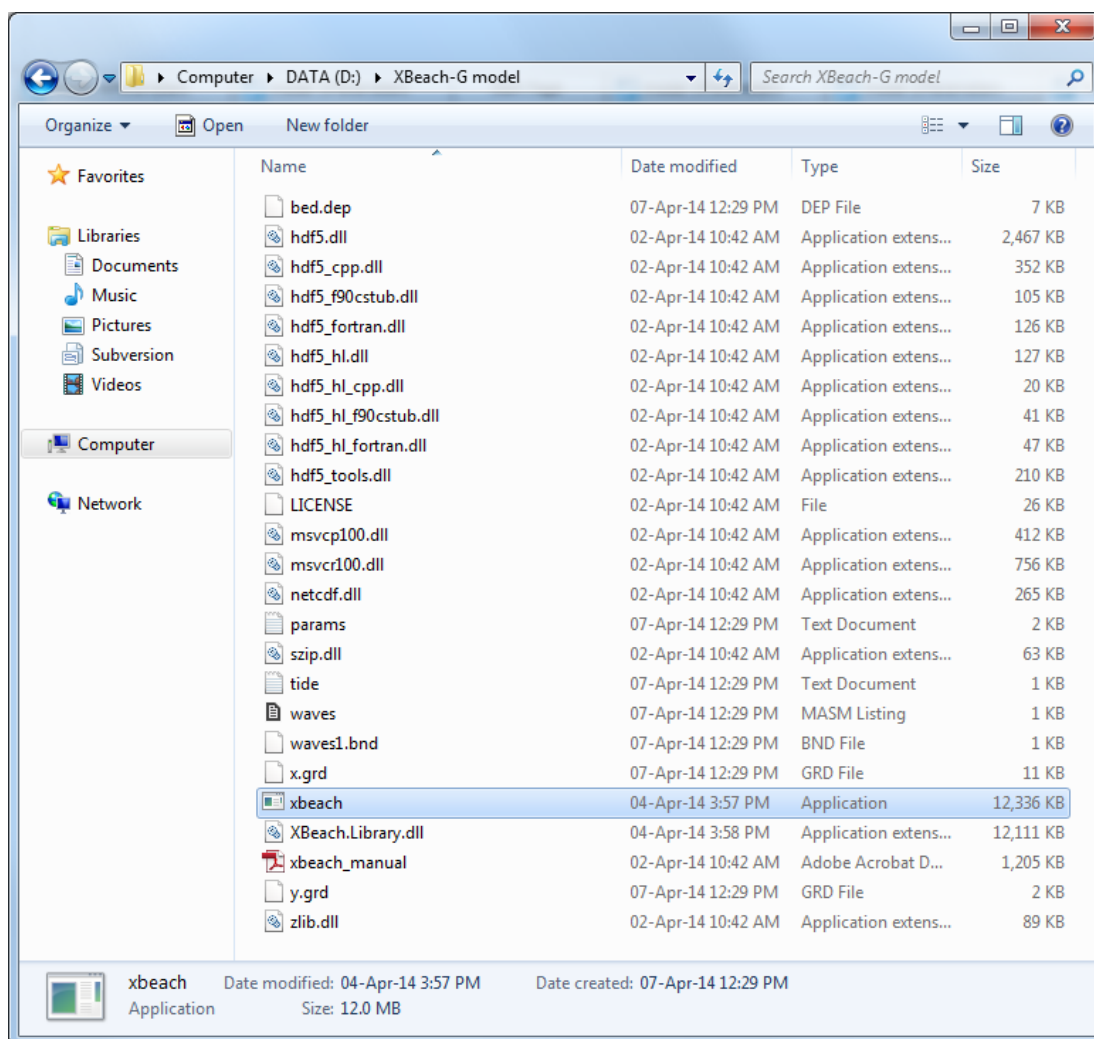

Figure 5.3: Microsoft windows file explorer showing all files created by the XBeach-G model set-up exporter to run the XBeach-G model outside the GUI
After selecting "Export..." the user will be prompted for a directory where the model set-up should be saved. If the user specifies a directory, the exporter will create a subdirectory with the name of the selected model (if needed made unique by including <name> (1) for example) and write several files to that directory, divided into the following two categories (see also Figure 5.3):